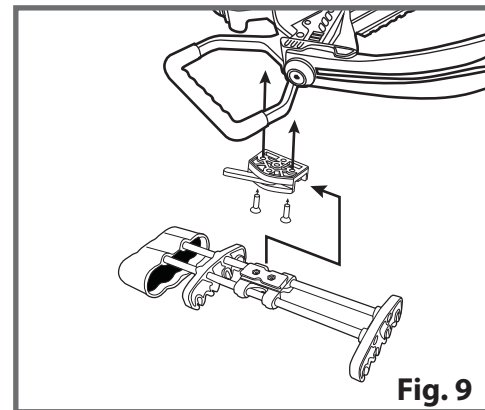

Fig. 9
1. Screw quiver mount onto the bottom of the stock using the quiver mount screws using the small hex wrench. (Fig. 9)
1. Connect quiver mount A to quiver mount B by sliding the two mounts together locking in place with locking lever. (Fig. 9)